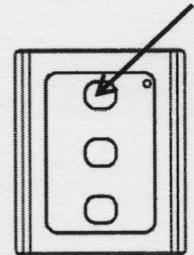

Figure 6
- b) Press one button of wireless wall switch, the dot (.) on the display turn off, then press the button again, the dot (.) on the display will flash, this means you have finished the coding.(Fig.6)